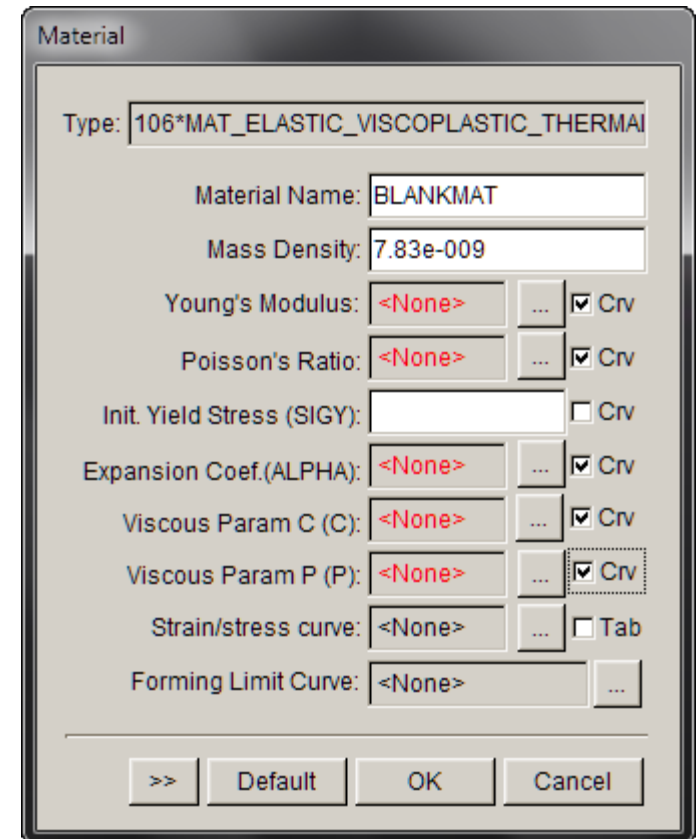

Figure 13
4. Toggle on switch illustrated in Figure 13.